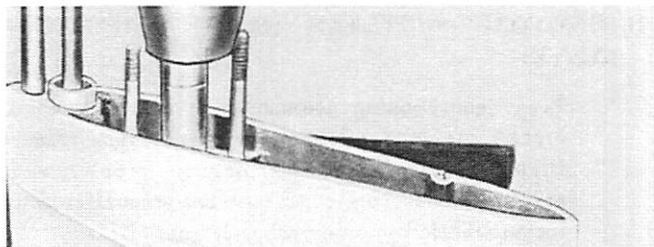

Figure 7. Removing Drive Shaft Needle Bearing from Gear Housing
3. Press bearing out with arbor press. (Figure 7)